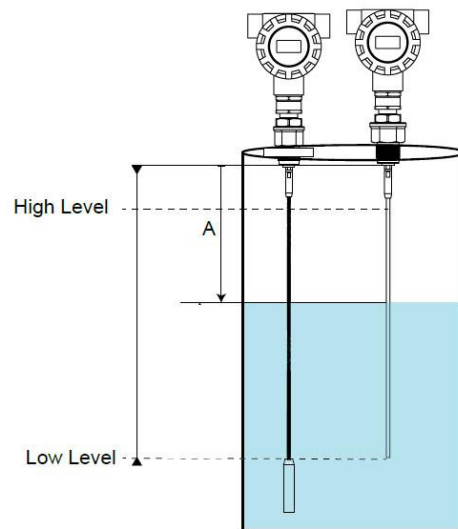

Figure 3: Verification Level Check
- e) Perform a single point level Verification – see Figure 3. Leave the Main Menu by pressing RUN twice. Confirm displayed reading is correct with another device such as manual reading or reference device. Confirm loop current reading is correct with ammeter.
- Perform a single point level Verification – see Figure 3. Leave the Main Menu by pressing RUN twice. Confirm displayed reading is correct with another device such as manual reading or reference device. Confirm loop current reading is correct with ammeter.